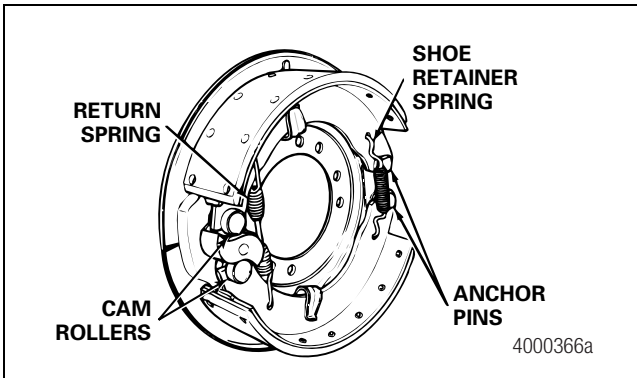

Figure 5.25
3. Install a new brake shoe return spring with the open end of the spring hooks toward the camshaft. Install the brake shoes onto the anchor pins. Figure 5.25.